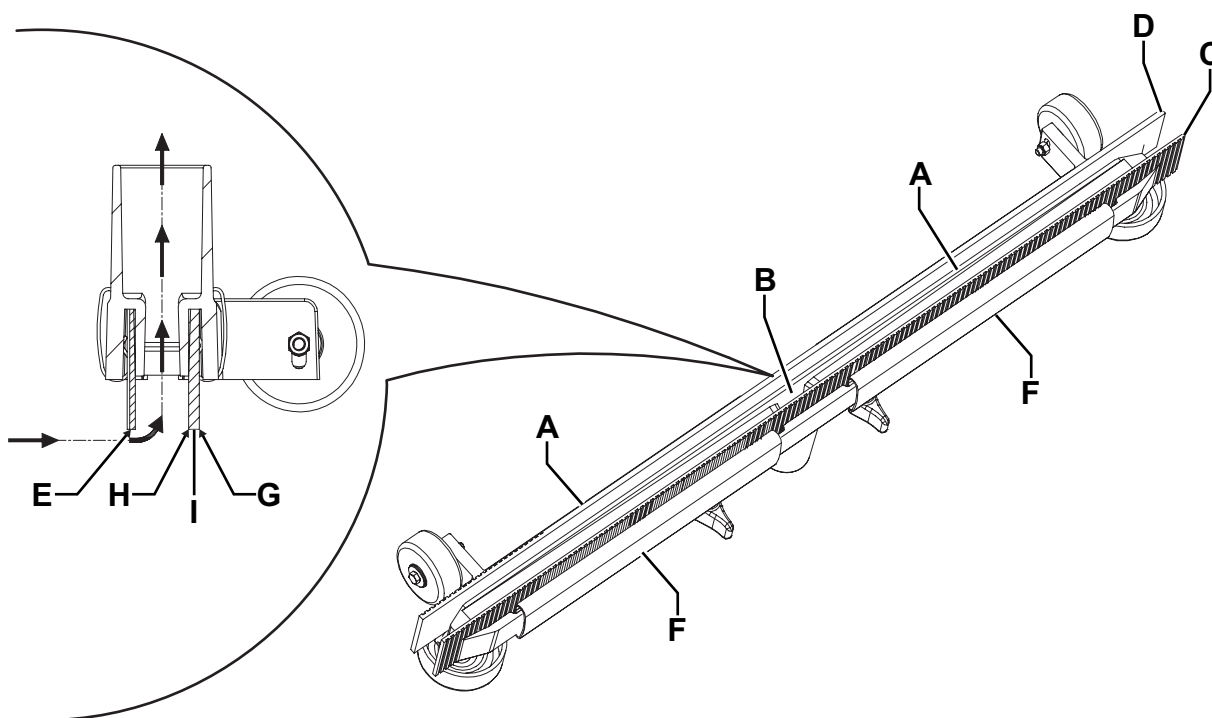

Figure 7
2. Make sure that the power supply cable plug (21) is disconnected from the electrical mains.
3. Lower the squeegee with the pedal (19).
4. Disconnect the vacuum hose (22) from the squeegee.
5. Loosen the handwheels (12) and remove the squeegee (11).
6. Wash and clean the squeegee. In particular, clean the compartments (A, Fig. 7) and the vacuum hole (B) from dirt and debris.
7. Check the front blade (C) and the rear blade (D) for integrity, cuts and tears; if necessary replace them (see the procedure in the following paragraph).
2. Check that the front blade edges (E, Fig. 7) and the rear blade edges (I) lay down on the same level, along their length; if necessary adjust the height according to the following procedure:
- Remove the mounting springs (F), then adjust the front blade (C) and the rear blade (D).
3. Check the front blade (C) and rear blade (D) for integrity, cuts and tears; if necessary replace them as shown below. Also check the front corner (H) of the rear blade for wear; if it is worn, overturn the blade to replace the worn corner with the other one (G), if it is integral. If the other corner is worn too, replace the blade according to the following procedure:
- Remove the mounting springs (F) and then replace (or overturn) the rear blade (D).
4. Install the squeegee (11) and screw tighten the handwheels (12).
5. Connect the vacuum hose (22) to the squeegee (11).